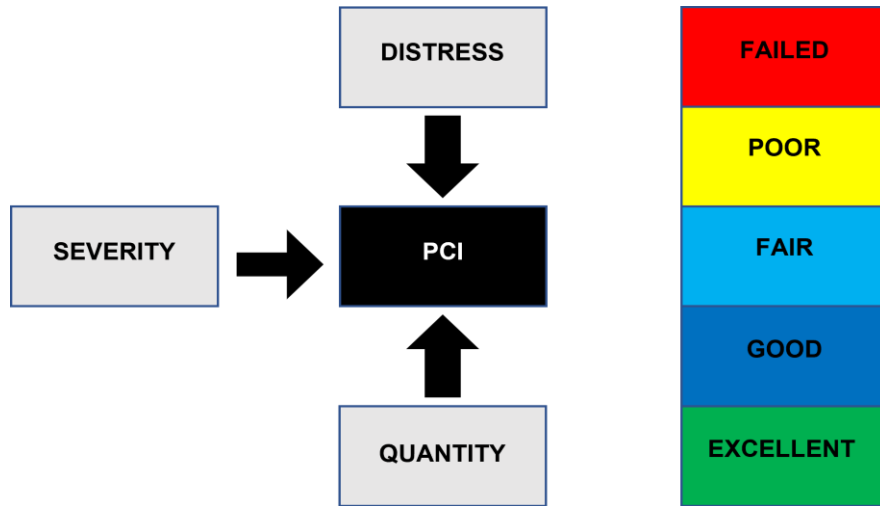

Figure. 2 Factors Determining PCI Value
The PCI is on a 0 – 100 condition scale, with 0 considered failed and 100 considered excellent. PAVER™ calculates each PCI through the input of distress types, severity levels, and quantities. Figure 2 illustrates the factors that go into the PCI, while Table 1 outlines the five (5) condition categories of the PCI with correlating maintenance recommendations: